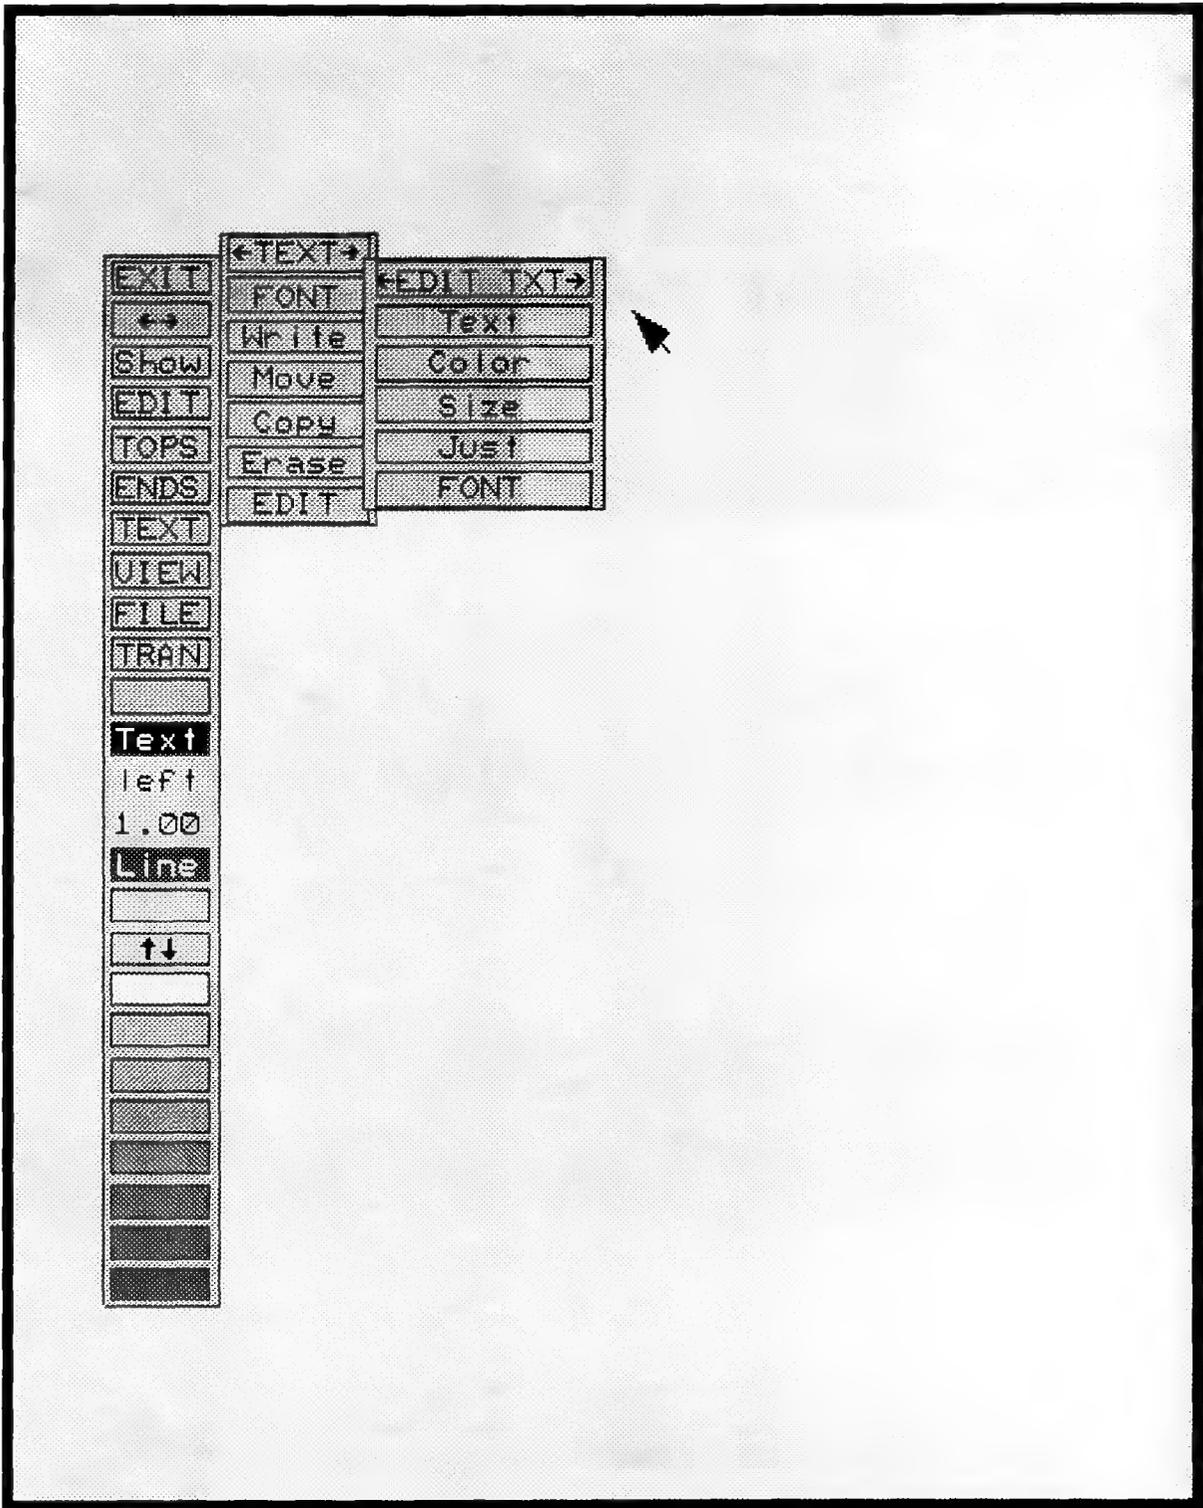

Figure 133. EDIT pop up menu.
6.2.7.7 EDIT. This option allows you to edit text and set various attributes of the text including color, size, font, and justification. When you invoke this option, an additional pop-up menu will be displayed (Figure 133).